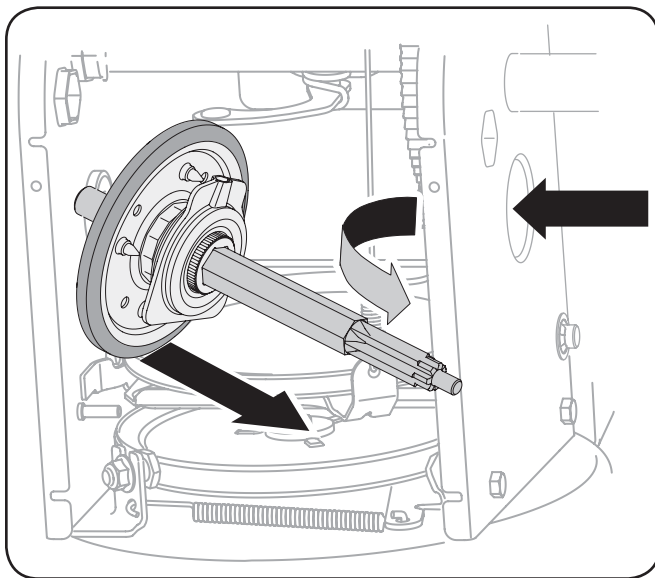

Figure 7-8
- Carefully position the hex shaft downward and to the left before carefully sliding the friction wheel assembly off the shaft. See Figure 7-8.